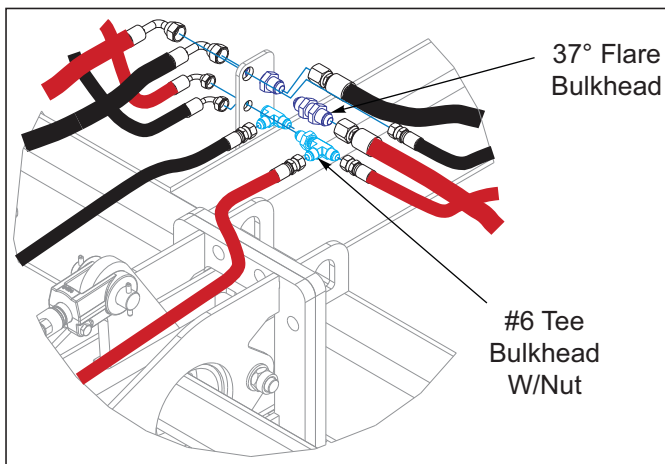

Figure 3-42: Bulkhead Fittings Installation
13. Attach the 37° flare bulkhead fittings to top holes of plate on rear plates of center frame and #6 tee bulkhead w/nut in lower holes in orientation shown both sides See Figure 3-42.